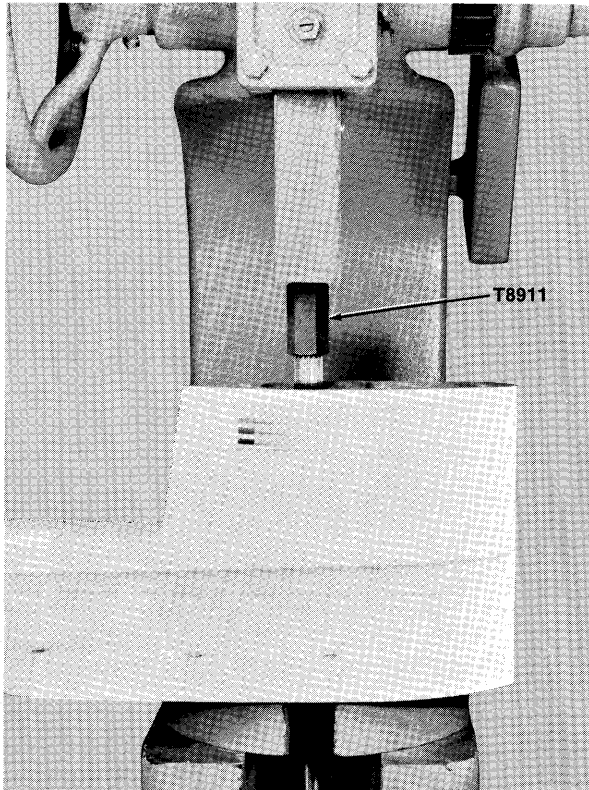

Figure 4—Removing Driveshaft
- F. Install knock-off nut (Special Tool T8911) over threaded portion of driveshaft and press driveshaft out of gear housing—upper as shown in figure 4. This operation will also remove driveshaft seal.